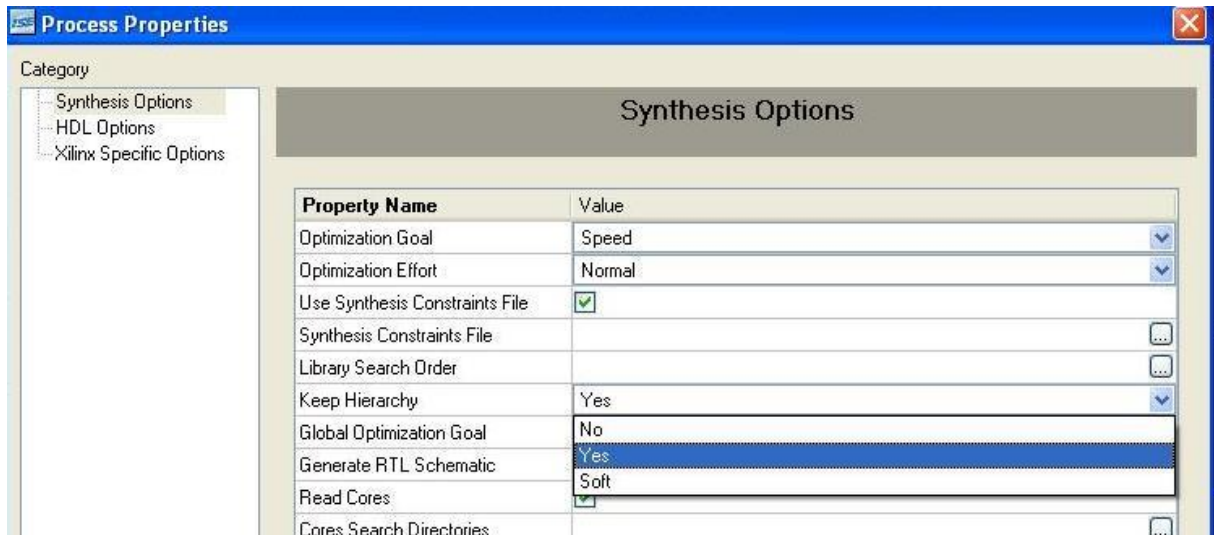

Fig 3.7: Selecting synthesis options
1. In order to identify easily and preferred signal names under each ILA, right click on **Synthesize-XST** properties. Select **Keep Hierarchy**→ ‘Yes’ or ‘Soft’ as shown in Fig 3.7.